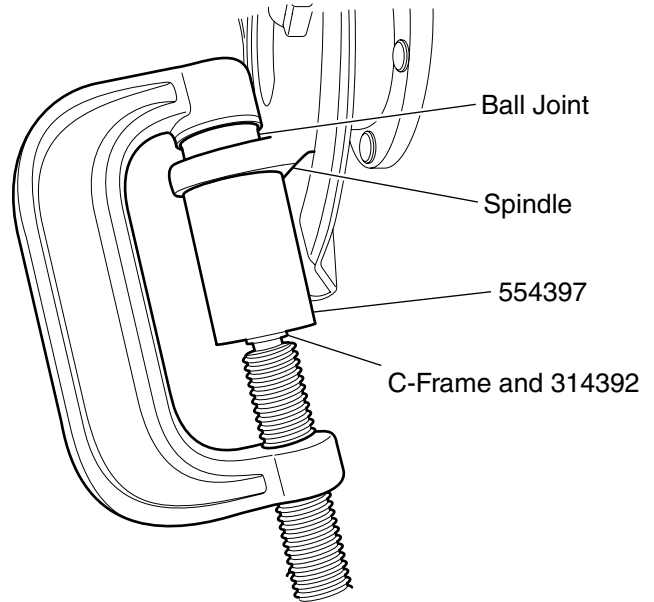

Figure 2. Ball Joint Installation
3. Position 554397 on the ball joint as shown in Figure 2.